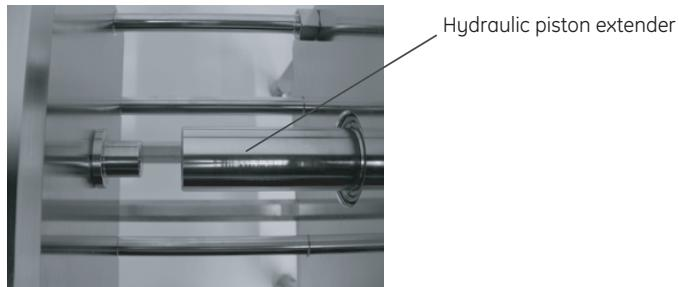

Fig 9. Kvick Flow extended holder with a 4-inch piston extender screwed into the hydraulic piston
- 8 Install one or both hydraulic piston extensions by screwing them into the end of the hydraulic piston using this schedule as a guide (Fig 9):